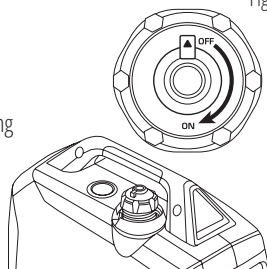

Fig. 3
4. Open the vent on the fuel cap to the "ON" position (fig. 3).